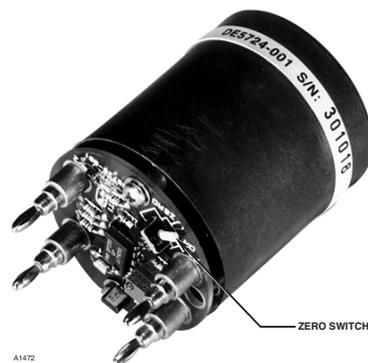

Figure 19—Electrochemical O₂ Sensor Cell
3. Move the toggle switch on the electrochemical sensor cell to the "zero" position. See Figure 19 for switch location. This will simulate the "zero" or "no-oxygen" condition necessary to establish a baseline output calibration level. When the U9500 display reads "00," move the toggle switch back to the "on" position. Place the aluminum sensor cover over the cell and reinstall.